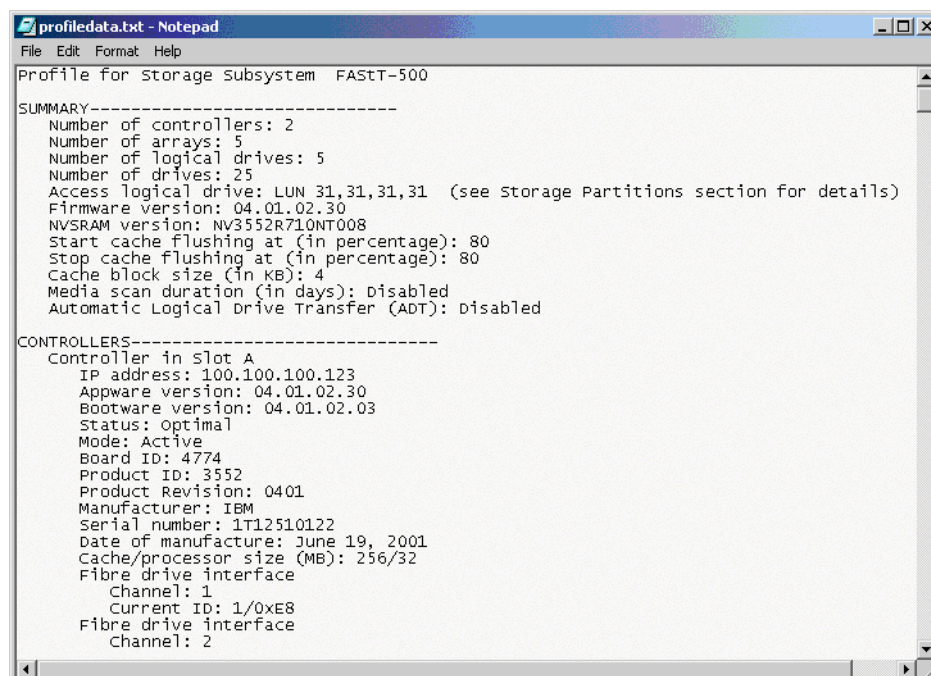

Figure 7-2 Sample of the profile data before update
4. The Subsystem Management window opens. Make sure your profile of the storage server is up to date. Click **Storage Subsystem-> Profile** and specify a name and path. Do not store the profile on the FAST Storage Server itself. Instead, choose a *local* disk. Figure 7-2 shows a sample of the profile output.